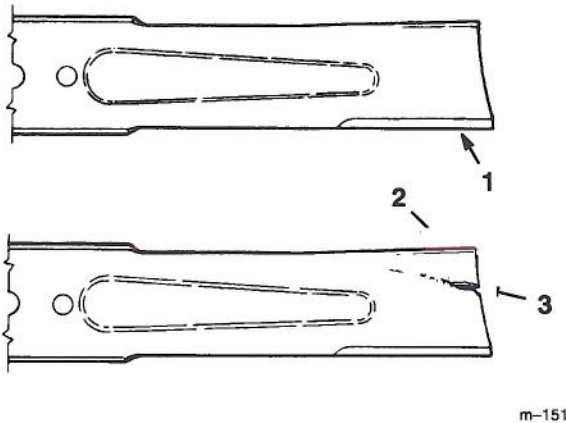

Figure 13
1. Inspect the cutting edges (Fig 13). If the edges are not sharp or have nicks, remove and sharpen the blades. Refer to Sharpening the Blades on page 13.
2. Inspect the blades, especially the curved area (Fig. 13). If you notice any damage, wear, or a slot forming in this area (item 3 in Fig. 13), immediately install a new blade.